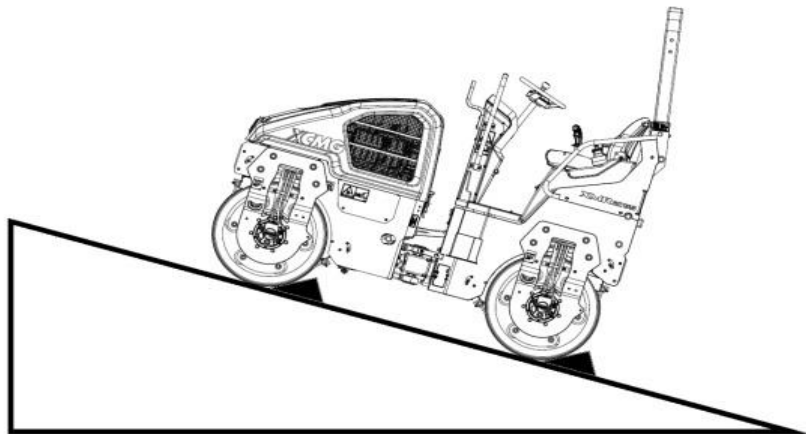

Fig. 6-13: Parking on slope and stopping the machine
3. If it has to be stopped on slope, stone, wooden block etc. shall be used to stop the front and rear steel drum (see the Fig. 6-13);